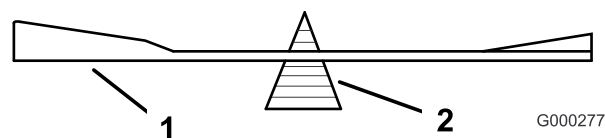

**Figure 95**
1. Use a file to sharpen the cutting edge at both ends of the blade (Figure 95).